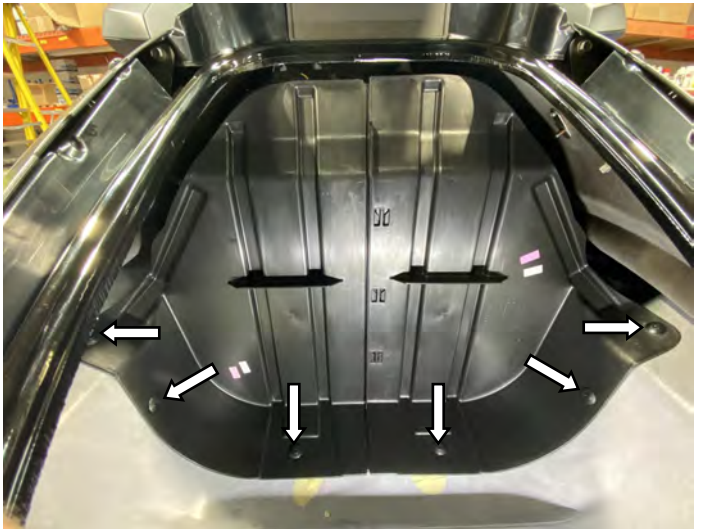

Figure 6
Inside front storage compartment, remove screws/rivets (6) securing bulkhead to hull. Set aside for use later. (See figure 6)